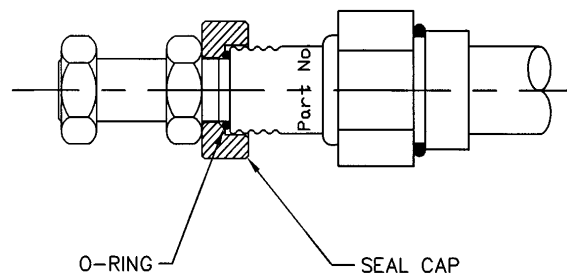

Figure 16. O-ring and Seal Cap
6. Re-install the other brass nut and power wires. (**Use a back up wrench** and tighten terminal nuts to 40 ft/lbs. (54.2 Nm)). Refer to Figure 16.